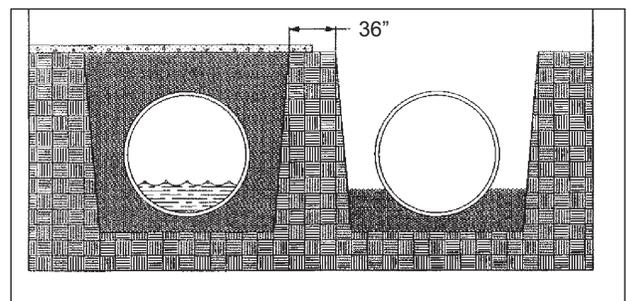

FIGURE 14-1
14.2.1. The preferred method (FIGURE 14-1) is the following: